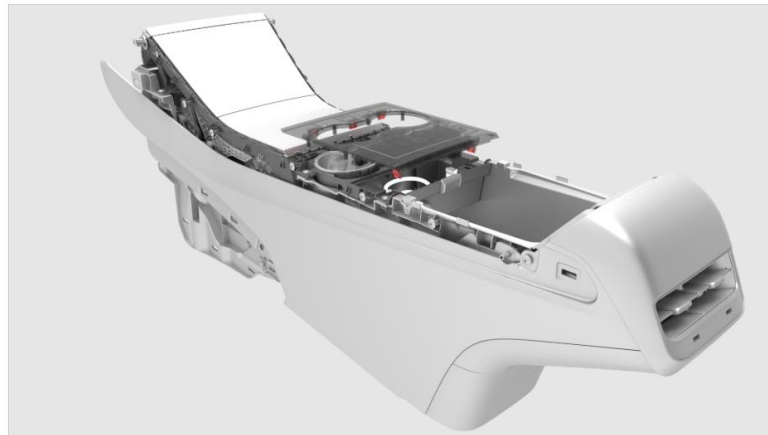

Figure 4
5. Carefully lift up the cup holder décor trim to release the clips that attach it to the center console (Figure 4).
- Carefully press down the cup holder décor trim to engage the clips that attach it to the center console (Figure 4).